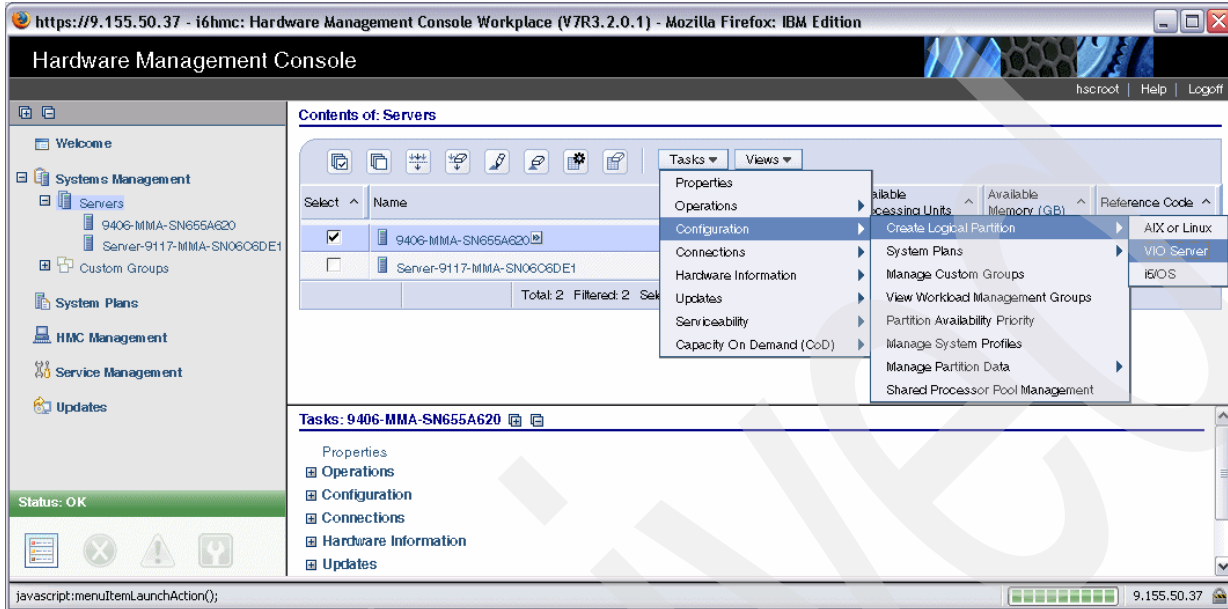

Figure 6-3 Create Logical Partition for VIOS
1. From the HCM Systems Management → Servers view we mark the server for creating the new VIOS partition on and select **Tasks** → **Configuration** → **Create Logical Partition** → **VIO Server**, as shown in Figure 6-3.